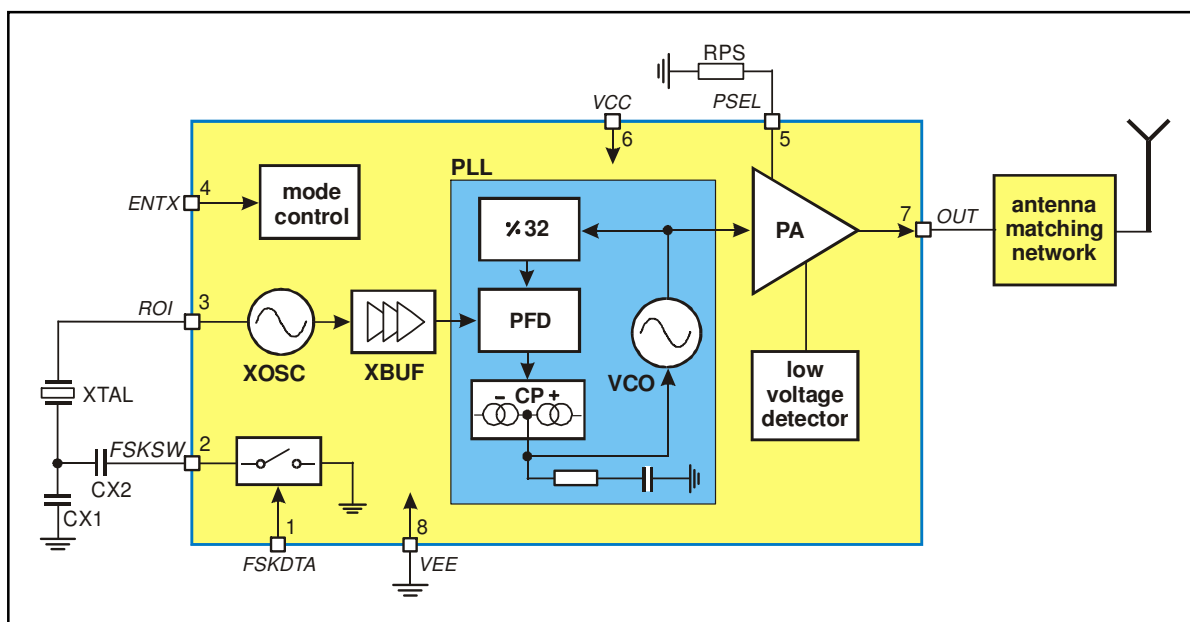

Fig. 1: Block diagram with external components
As depicted in Fig.1, the TH72001 transmitter consists of a fully integrated voltage-controlled oscillator (VCO), a divide-by-32 divider (div32), a phase-frequency detector (PFD) and a charge pump (CP). An internal loop filter determines the dynamic behavior of the PLL and suppresses reference spurious signals. A Colpitts crystal oscillator (XOSC) is used as the reference oscillator of a phase-locked loop (PLL) synthesizer. The VCO's output signal feeds the power amplifier (PA). The RF signal power P_{out} can be adjusted in four steps from $P_{out} = -12$ dBm to $+11$ dBm, either by changing the value of resistor RPS or by varying the voltage V_{PS} at pin PSEL. The open-collector output (OUT) can be used either to directly drive a loop antenna or to be matched to a 50Ohm load. Bandgap biasing ensures stable operation of the IC at a power supply range of 2.1 V to 5.5 V.